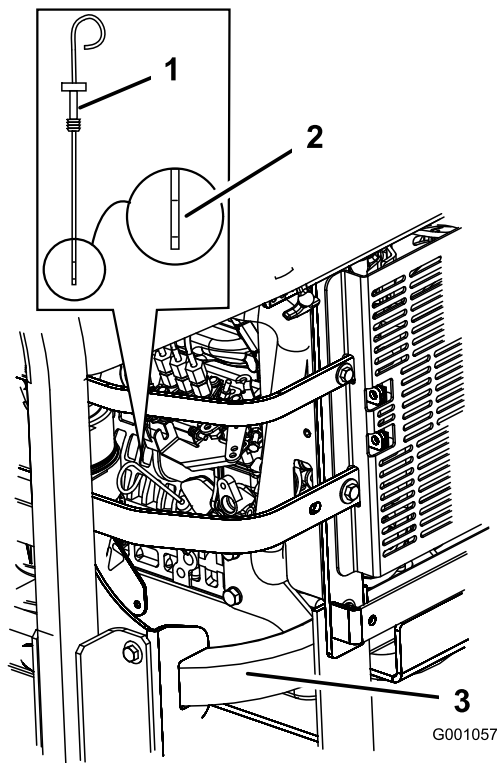

Figure 46
3. Clean around the oil dipstick (Figure 46) so dirt cannot fall into the filler hole and damage the engine.
4. Pull the oil dipstick out and wipe the metal end clean (Figure 46).
5. Slide the oil dipstick fully into the filler tube. Pull the dipstick out and look at the metal end (Figure 46). If the oil level is low, slowly pour only enough oil into the fill hole to raise the level to the full mark.